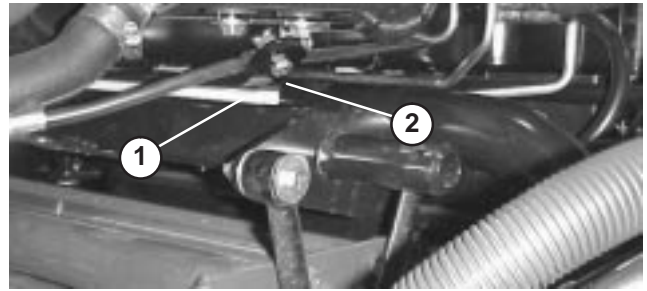

Figure 27
3. Start engine, raise lift arms and check to make sure clearance between wear strap on top of rear cutting unit wear bar and bumper strap is .020” – .100” (Fig. 27). If clearance is not in this range, adjust rear cylinder to attain clearance. To adjust cylinder, lower the cutting units and back off the jam nut on the cylinder (Fig. 28). Grasp cylinder rod close to the nut with a pliers and rag and rotate the rod. Raise the cutting units and check clearance. Repeat procedure if required. Tighten clevis jam nut.